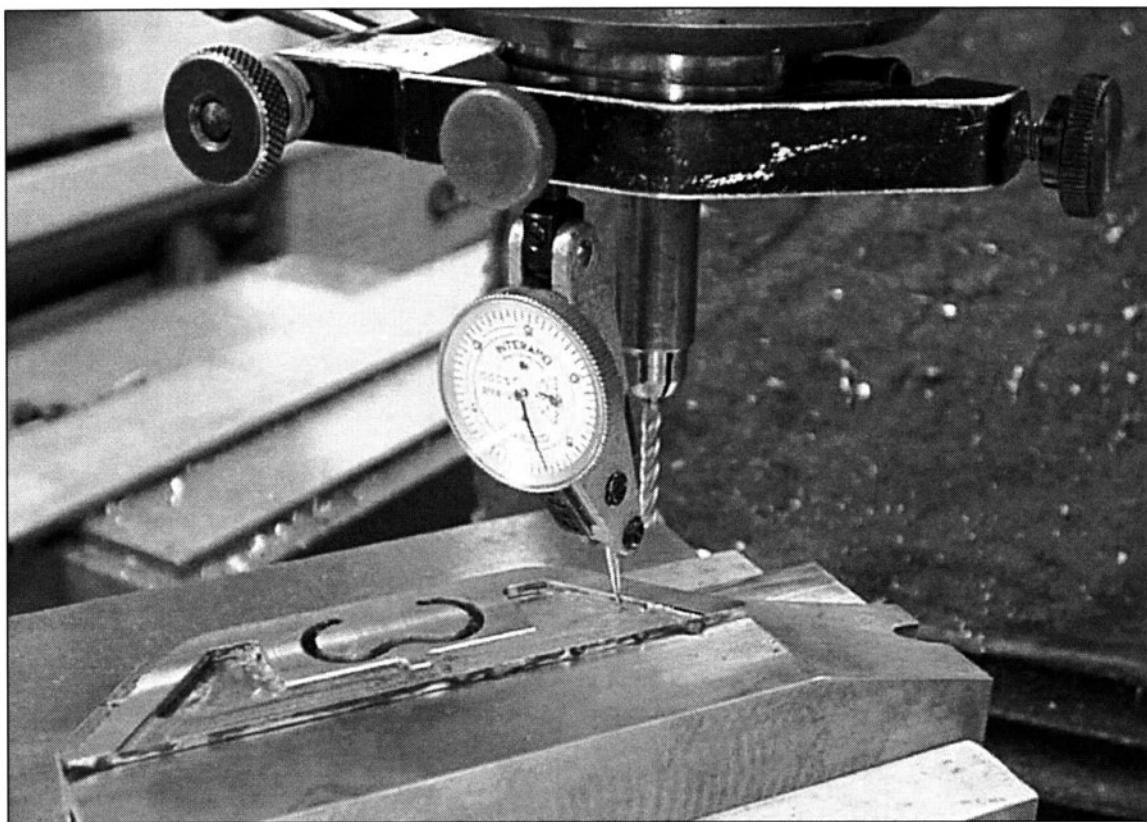

FIGURE 3-1 This indicator holder has been modified to allow the indicator to be mounted directly in its frame.
3. *Put a thumbscrew in the frame of your Indicol® to make it more versatile. (See Fig. 3-1)*